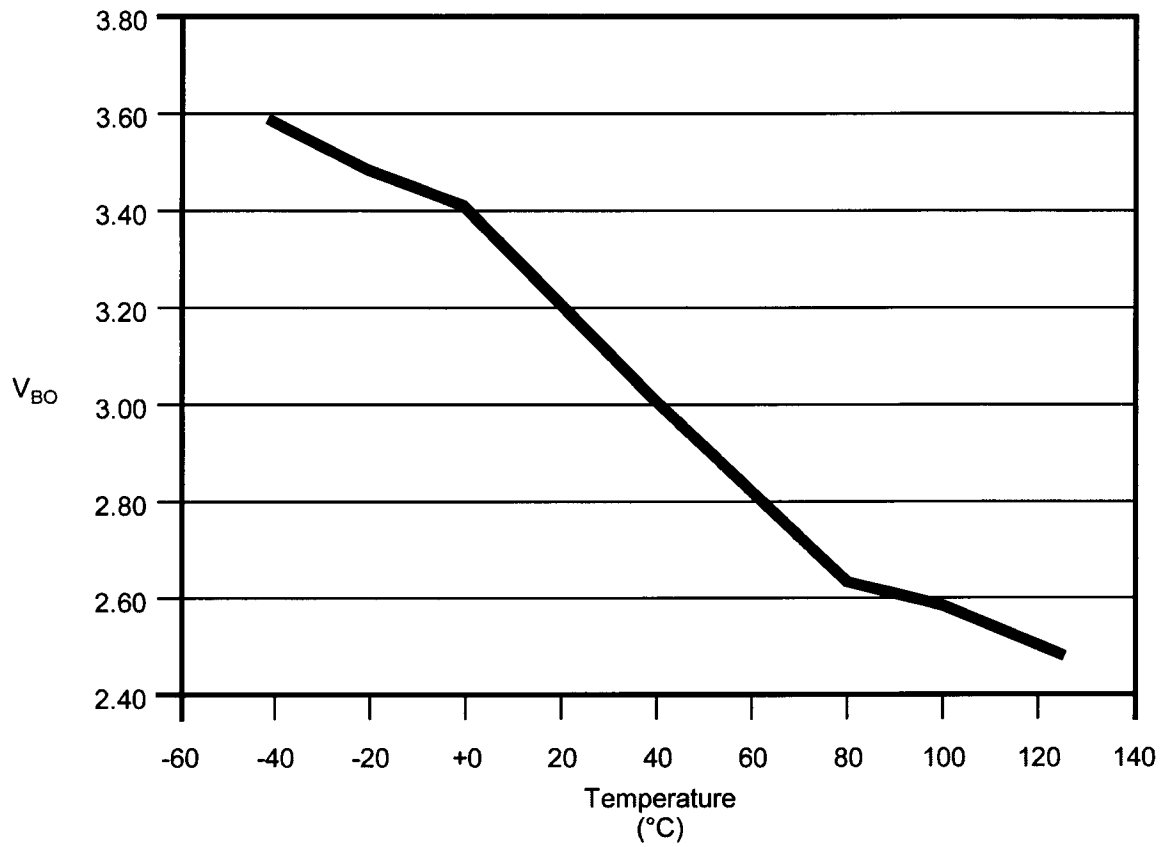

Figure 21. Voltage Sensitive Reset vs Temperature
**$V_{CC}$  Voltage Sensitive Reset (VSR).** Reset is globally driven if  $V_{CC}$  is below the specified voltage (Figure 21).